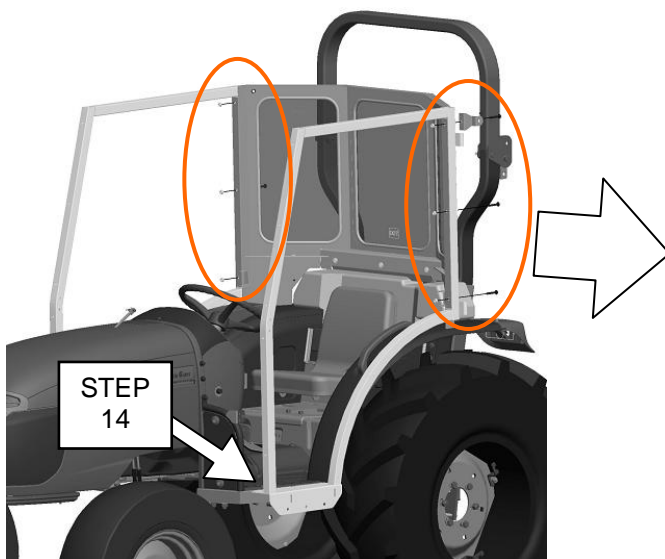

Figure 9
14. Position the plate portion of LH side frame onto tractor platform deck. See figure 9.